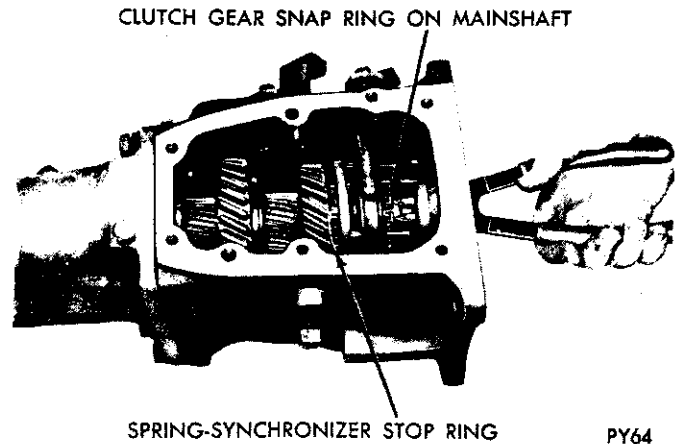

Fig. 20—Removing or Installing Clutch Gear Snap Ring
- (1) Remove clutch gear retaining snap ring from mainshaft (Fig. 20).